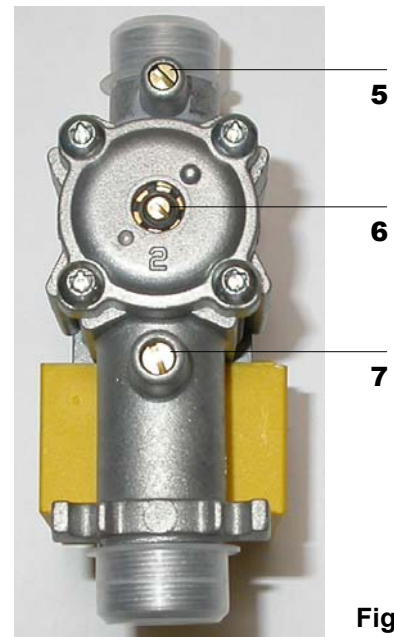

Fig. 1
- Unscrew **5** gas pressure point screw (fig. 1) on the gas valve and insert a manometer;
- The manometer will show the maximum gas pressure value; if that value is different than the one stated on the Data Plate (see Gas pressure adjustment table pag. 6), modify it as follows: turn the **6** gas adjustment screw (fig. 1) clockwise to increase gas pressure and counter clockwise to decrease gas pressure to reach the data Plate pressure value.
- Remove the silicon pipe from the pressure point **5** (fig. 1);